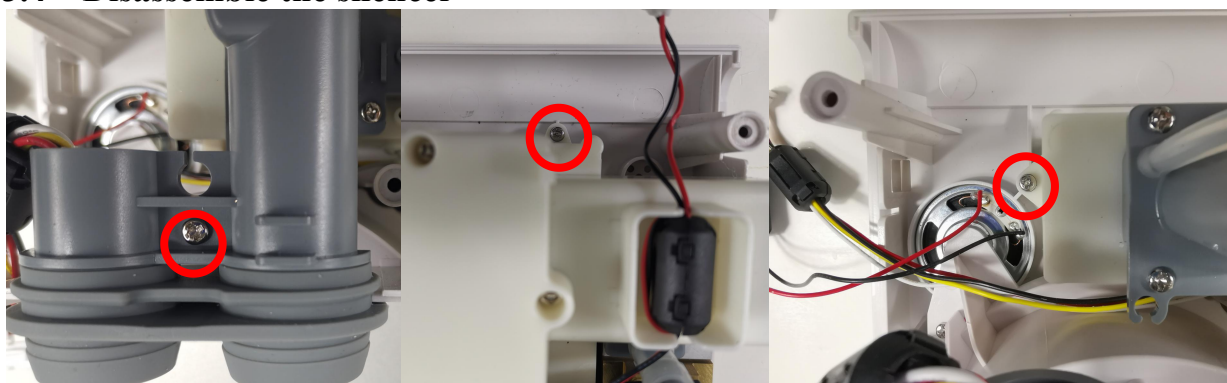

Figure 3-4-1
① Use a Phillips screwdriver to remove the 5 screws in the red circles as Figure 3-4-1 and 3-4-2. Then pull out the oxygen elbow in Figure 3-4-3 in the direction as red arrow to take out the entire silencer. After taking out the silence, you can directly take out the power module as shown in Figure 3-4-4